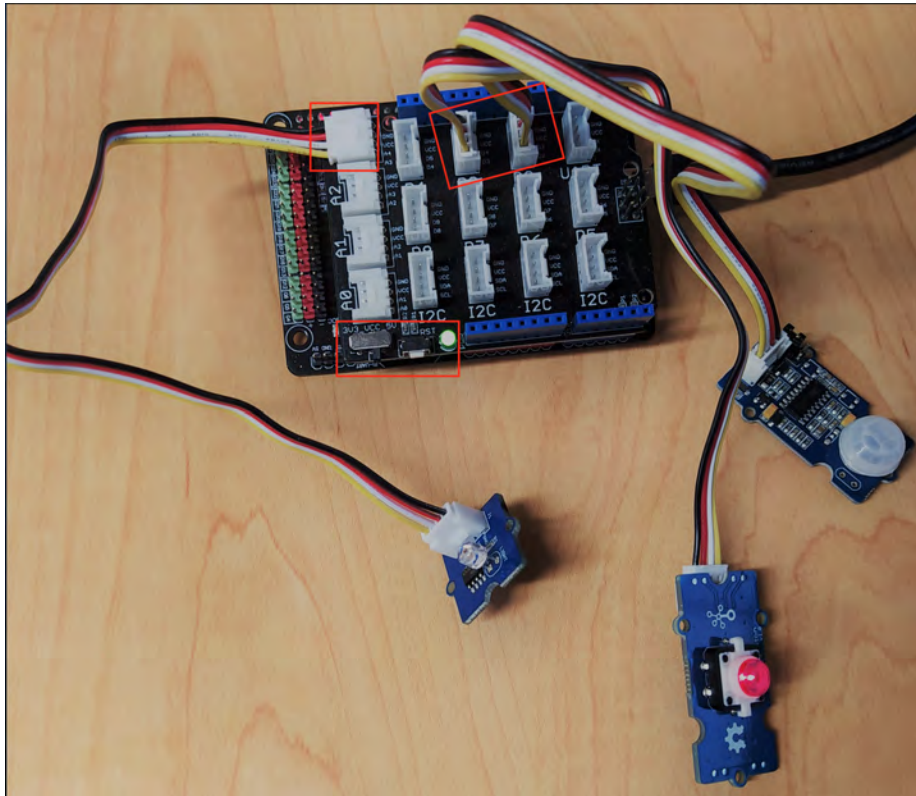

Figure 1.3: Final Setup
7. Now **verify** (the top left tick icon ) and **upload** the given code. After you upload it the LED button should start blinking. When you press and hold the button, the LED should stop blinking. Your final setup should be as in Figure 1.3.
- Check the "Green" light** The LED on base shield must be illuminated in green colour like shown in figure 1.3
- Turn on "Base Shield"** If there is no illuminated green light on base shield then switch the black button found on the bottom left of base shield as shown in figure 1.3.